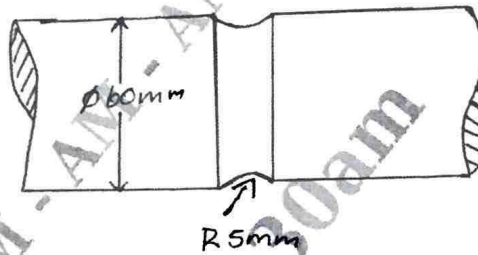

Fig. Q1 (c)
c. Determine the maximum stress induced in the semi circular grooved shaft shown in Fig. Q1 (c), if it is subjected to,